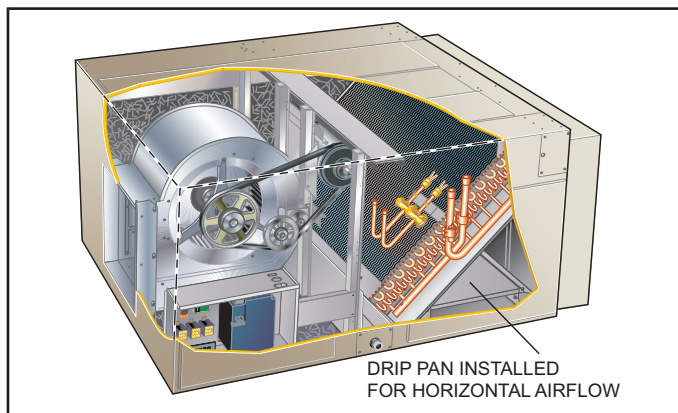

FIGURE 2. Drip Pan in Horizontal Airflow Position
If the unit is installed for horizontal airflow, the drip pan must be positioned as shown in figure 2, and the drain pan must be positioned as shown in figure 4.
- 4 - Move drip pan to location shown in figure 2. Ensure that insulation parts remain on the bottom of drip pan.